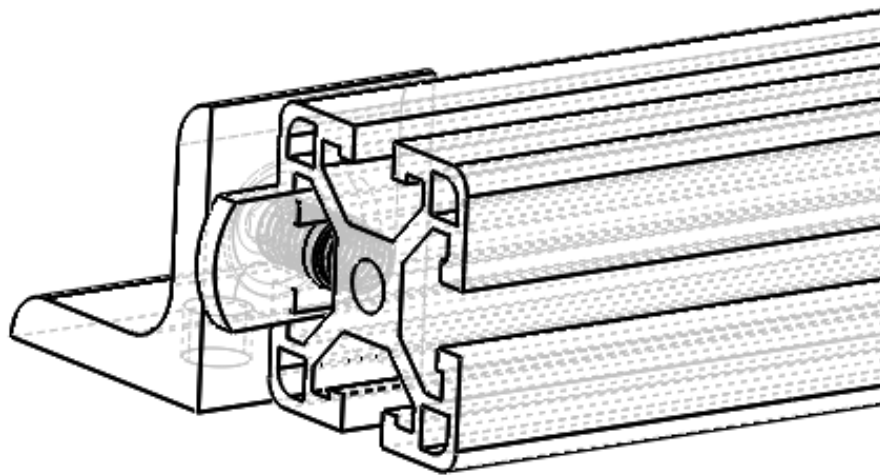

Fig. 3.8: Corner bracket with end-feed fastener (#RGEC) sliding in the beam groove
- ❑ Insert the brackets with end-feed fastener into the rail, as shown in Fig. 3.8. Insert two into the left side, two into the right side of each beam.
- ❑ Insert the brackets with end-feed fastener into the rail, as shown in Fig. 3.8. Insert two into the left side, two into the right side of each beam. (See Fig. 3.8)